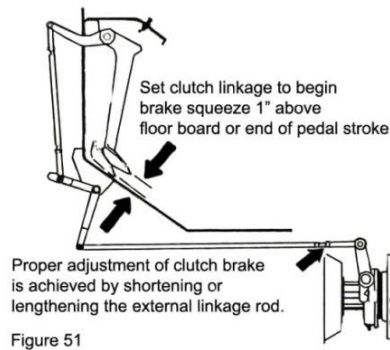

Figure 51
1. Clutch brake "squeeze" (increased resistance) must occur 1" above floorboards. This adjustment is made by shortening or lengthening the external linkage rod (Figure 51)